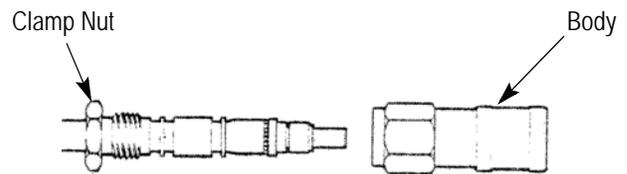

Figure 9
2. Press the sub-assembly into the body as far as possible. Engage and tighten the clamp nut. See Figure 9.